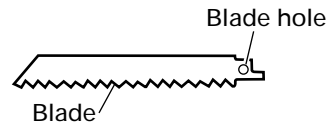

Fig. 14
**Do not use any saw blade with a worn-out blade hole. Otherwise, the saw blade can come off, resulting in personal injury. (Fig. 14)**